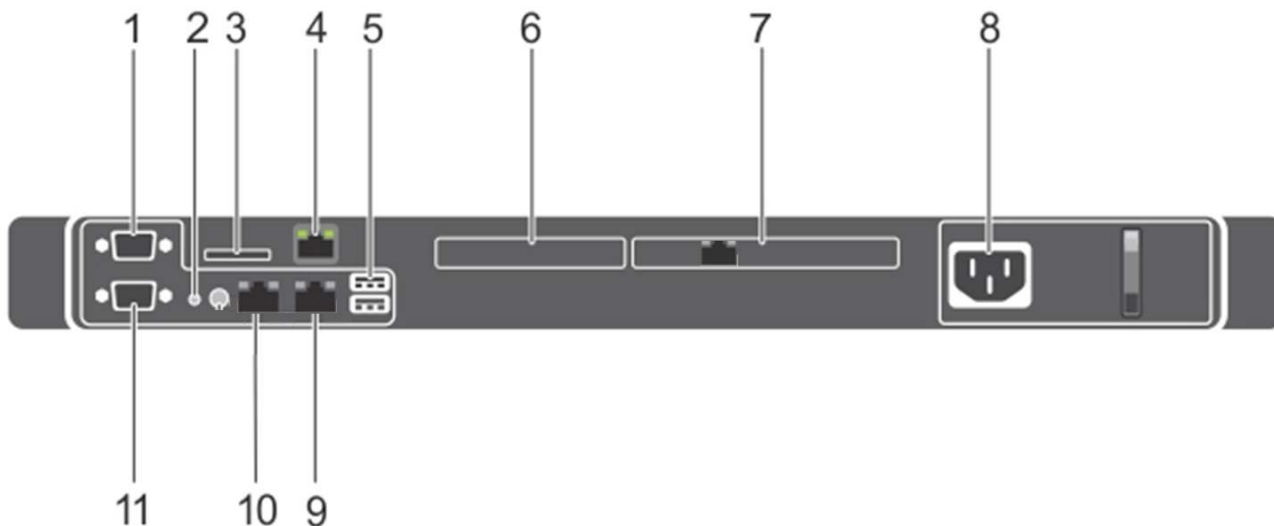

Figure 4.6: EIGER R 1M detector control unit as seen from the back. Numbered items relevant for operation of the detector system are described below.
EM1 (Embedded, figure 4.6 (10))	Interface Name: EM1 (1 GBase-T) User configurable GbE Network Interface Preconfiguration: DHCP
EM2 (Embedded, figure 4.6 (9))	Interface Name: EM2 (1 GBase-T) Fallback GbE Network Interface Preconfiguration: Static 10.42.41.10 (Netmask 255.255.255.0)
P2P1 (Slot 1, figure 4.6 (7))	10GBase-T Ethernet Detector Interface Port1
Power (figure 4.6 (8))	AC Connector